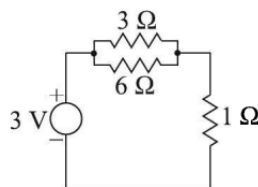

Fig. 2.21
- (k) The power supplied by the voltage source in the circuit, shown in Fig. 2.21, is